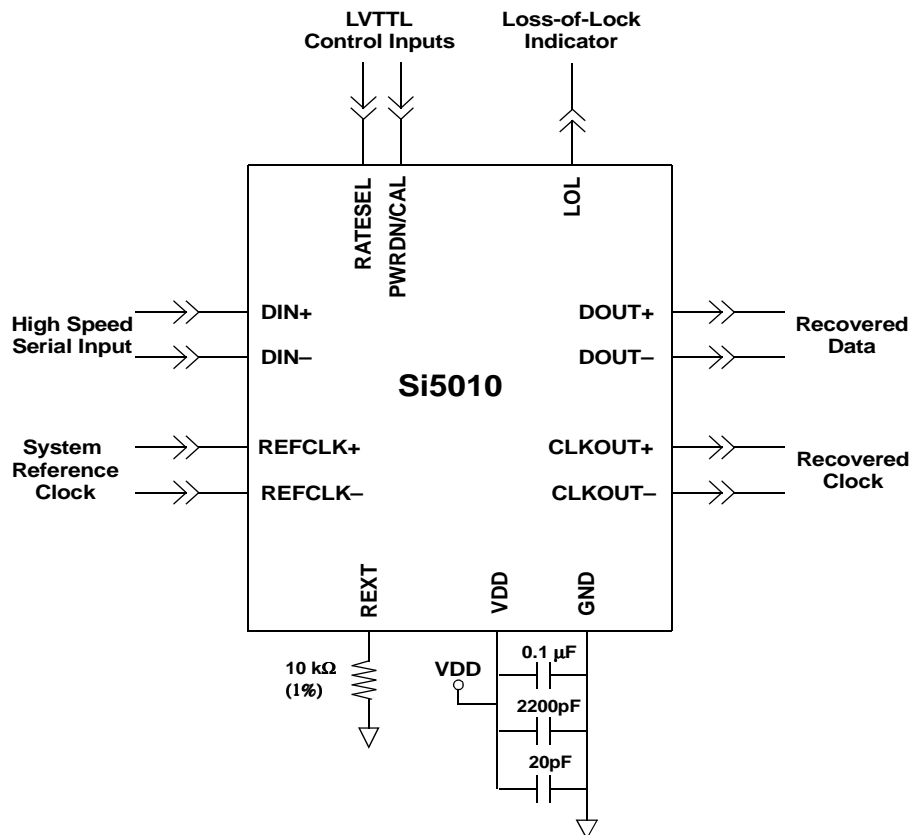

Figure 5. Si5010 Typical Application Circuit
2. The Si5010 specifications are guaranteed when using the recommended application circuit (including component tolerance) of Figure 5 on page 8.